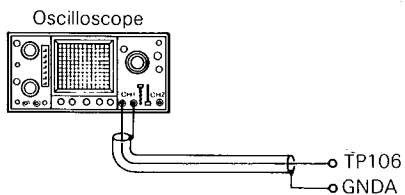

Fig. 23
- (1) Disconnect jumper wire W-5 on main P. C. board.
- (2) Short circuit TP401 and GND on main P. C. board.
- (3) Switch the power switch on and slide the disc tray out by pressing the open/close button.
- (4) Insert the Philips test disc # 5 and place the unit in test mode 4. (See chart number 3.)
- (5) Connect the oscilloscope (DC input) to TP106 and GND. (Fig. 23)
- (6) Adjust VR103 for zero volts DC $\pm 5mV$.
- (7) Reconnect jumper W-5.